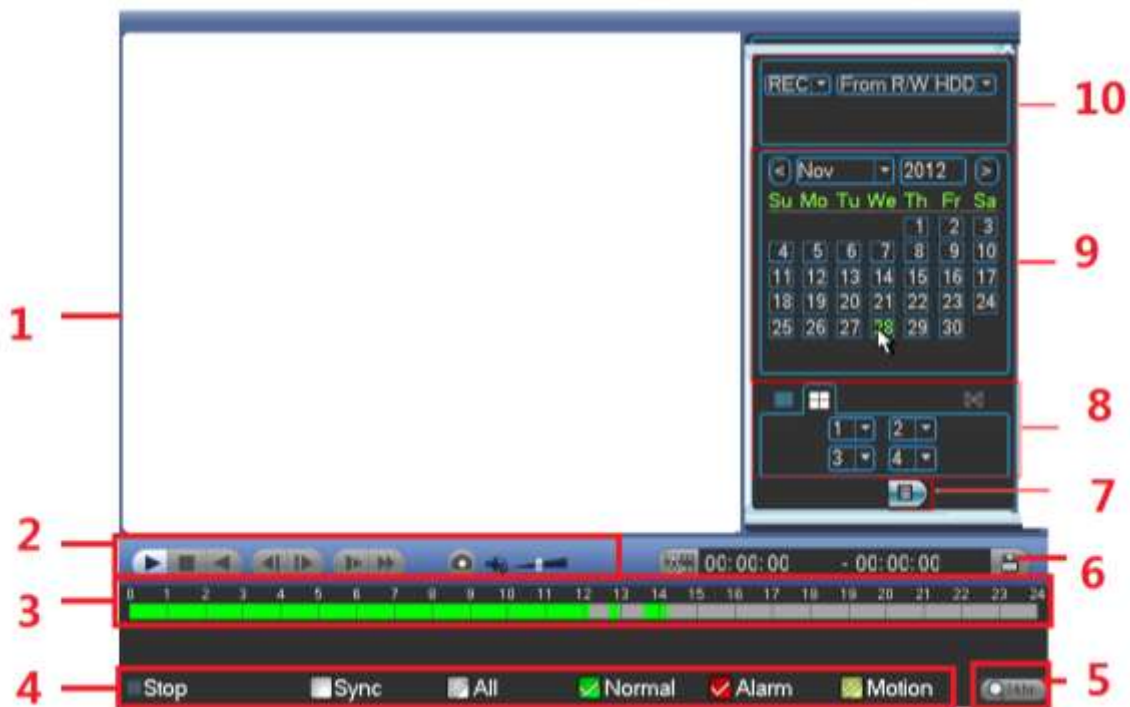

Figure 4-40
Enter Search interface. See Figure 4-40.
a) From Main menu->Search, or on the preview interface right click mouse, you can go to Figure 4-40.